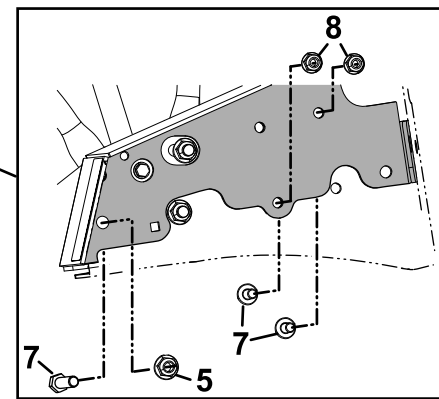

Figure 3
2. Place the flow control panel onto the machine and secure it using the hardware shown in Figure 3.